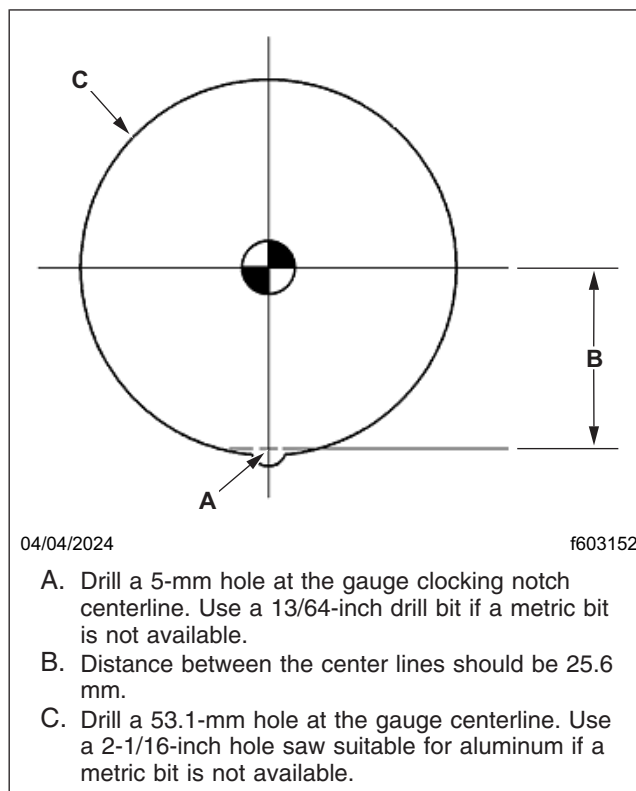

Fig. 5, Gauge Cutout Details
9. Drill out the holes for the gauge installation. See Fig. 5.